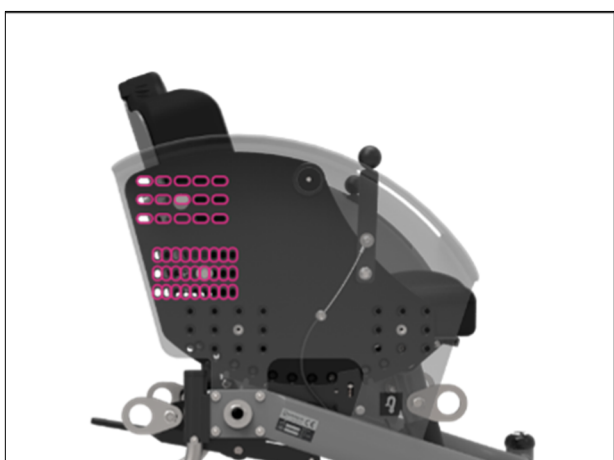

Figure 8: Hole pattern in the clothing guard for adjusting the height
2. Slide the back support up or down along the hole pattern (see Figure 8) until the desired position is reached.